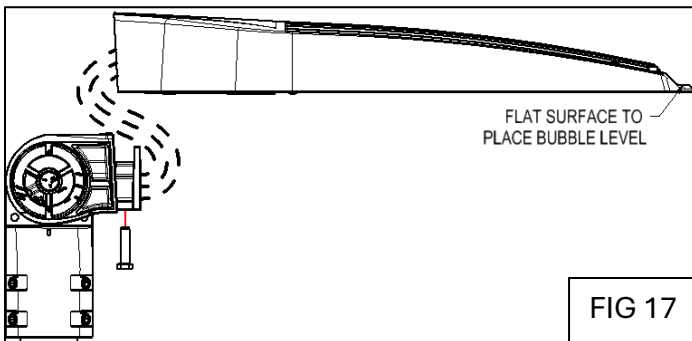

FIG 17
7. While routing Luminaire supply wires thru the Arm wireway (similar to Universal Arm depicted in FIG 3), position Luminaire on the cleat on the Arm. Make sure the wires are not pinched. (FIG 17)
9. Install (2) 3/8-16 bolts provided to secure the Velocity Luminaire to the Arm (FIG 17). Tighten to 20 FT-LB.